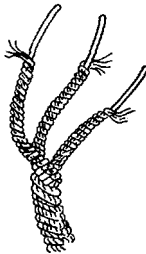

Figure 2-18. Left-twist Thread.
- (2) Select needle according to the type of thread and the weight of material to be worked. Use left-twist thread only in the needle. Right-twist thread may be used in the bobbin. Refer to Figure 2-18.
- (3) The thread must pass freely through the needle eye. Rough or uneven thread, or thread that for any reason does not slip easily through the needle eye interferes with the operation of the machine.